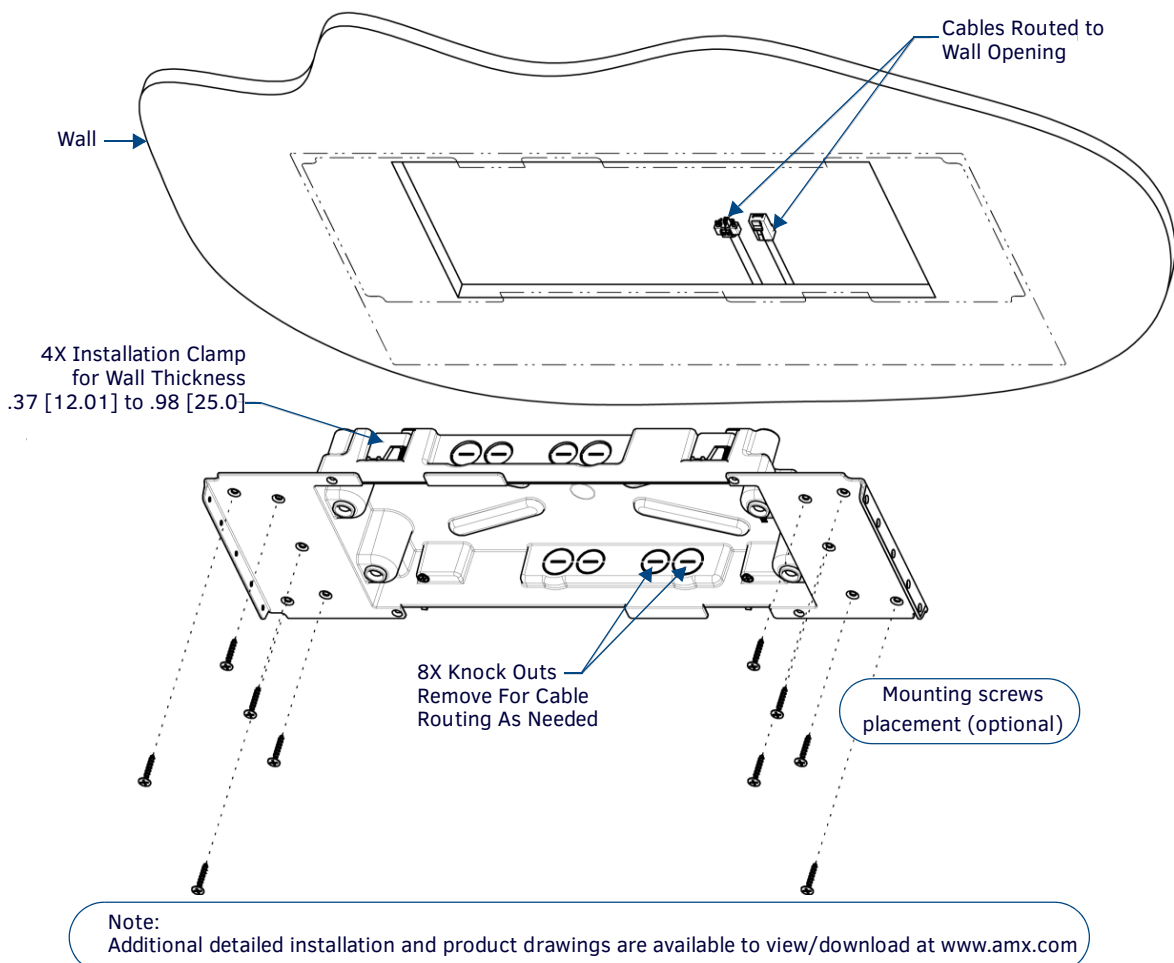

FIG. 30 MXD-1901-PAN Backbox installation (Landscape)
3. Thread the incoming power and Ethernet wiring from their terminal locations through the surface opening (FIG. 30). Note that FIG. 30 shows the MXD-1901-PAN, but the illustration applies equally to the MXD-2001-PAN. Also note that FIG. 30 shows a landscape panel but the installation of a portrait panel is essentially the same, other than the vertical orientation. Leave enough slack in the wiring to accommodate any re-positioning of the panel.
- For additional strength, #4 mounting screws (not included) may be secured through circular holes located at the left and right sides of the MXD-2001-PAN (see FIG. 30). In order to prevent damage to the touch panel, make sure that these are flush with the Backbox.